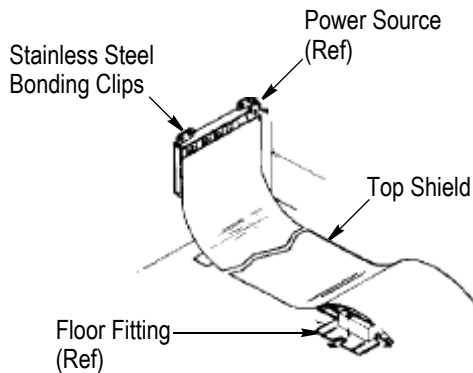

Figure 3
2. Trim, then terminate the top shield to the power source (transition box or power transition block assembly). Connect the top shield to the power source using the stainless steel bonding clips. Refer to Figure 3. Then, proceed with the following:
- a. At the floor fittings, lay the top shield over the top of the floor fitting and continue laying the top shield to the end of the cable run. Refer to Figure 3.